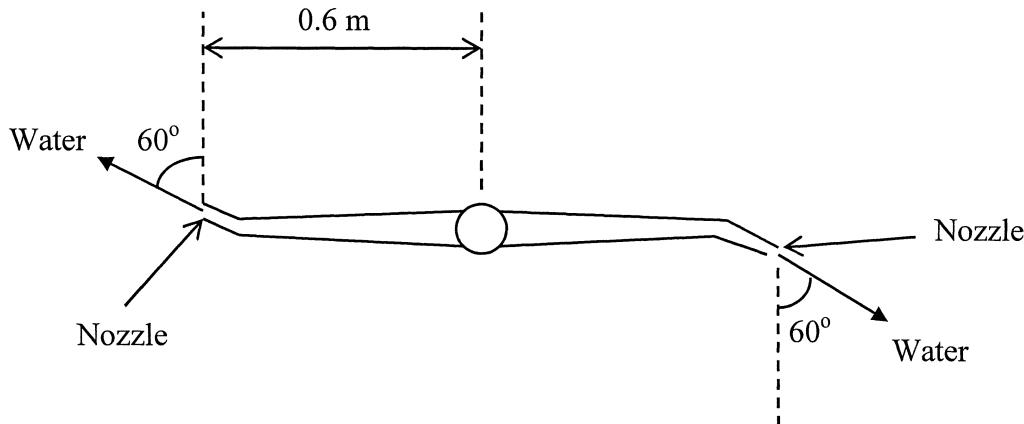

Figure 2
- (b) Water enters through the base of a lawn sprinkler which has two rotating arms. The area of each nozzle is  $50 \times 10^{-6} \text{ m}^2$ . Water then exits equally through each nozzle which is inclined horizontally at an angle of  $60^\circ$  to the tangential direction as shown in the plan view of the sprinkler in Figure 2. The radius from the axis of rotation to the centreline of each nozzle is 0.6 m. The density of water is  $1000 \text{ kg/m}^3$ .
Note: Figure 2 appears on page 3.